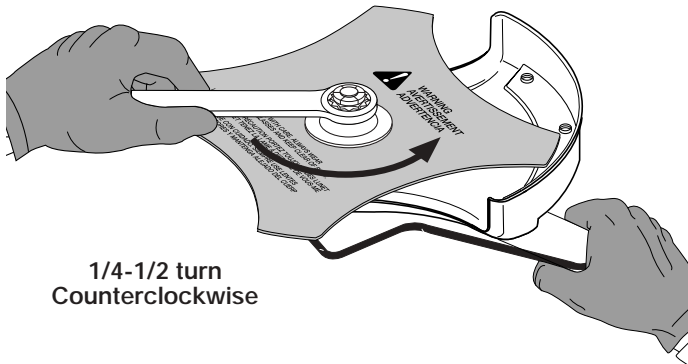

Fig. 20
- Without a torque wrench, use a 5/8 inch closed-end or socket wrench, turning the nut until the blade retainer is snug against the shaft bushing. Make sure that the blade is installed correctly, then rotate the nut an additional 1/4 to 1/2 turn counterclockwise (Fig. 20).